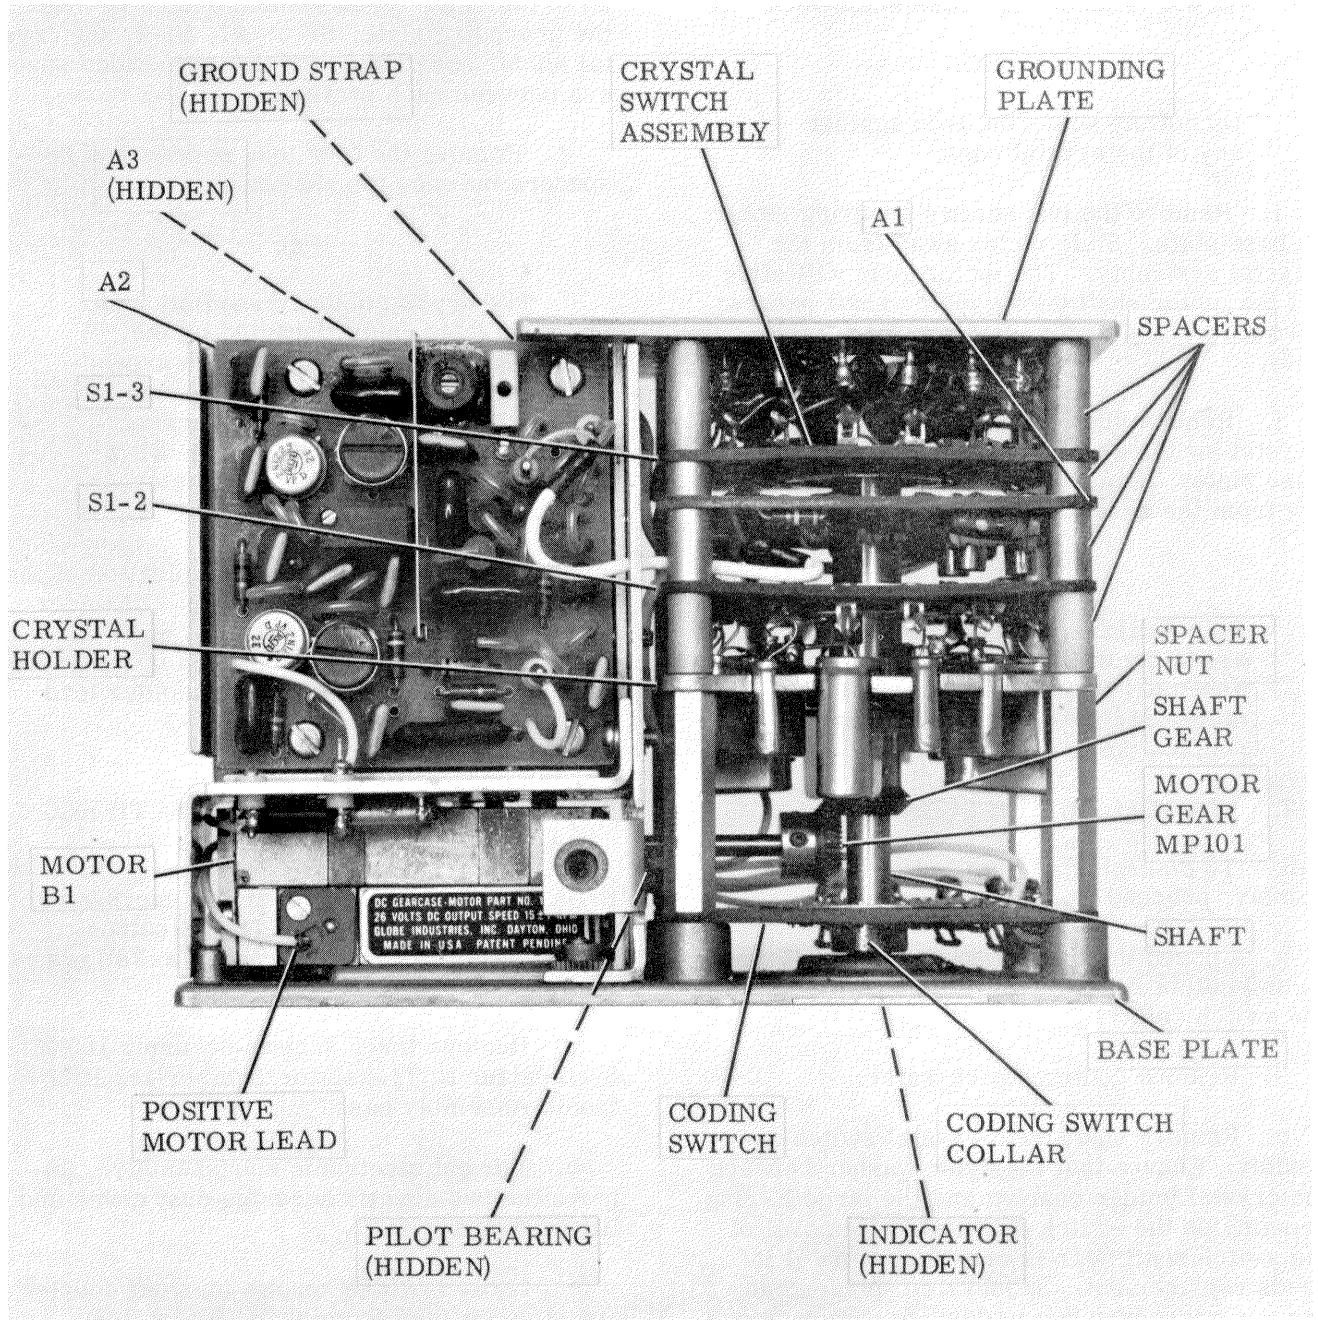

Figure 3-2. 1 MC Synthesizer Electronic Subassembly, Component Location
(1) Unsolder all wires (mark all wires) attached to the coding switch (figure 3-2).
(2) Unsolder coax cable at A1 (figure 3-2) terminals 1 and 2 (mark the two leads).
(3) Disconnect P1 (at end of the coaxial cable) from J1 on A2 (see dust cover). Unsolder coaxial cable shield lead from A2 terminal 2.
(4) Unsolder coaxial cable leads (mark the two leads) from A3 terminals 7 and 9.
(5) Unsolder lead from A1 terminal 5 (mark wire).
d. Remove screw securing ground strap to bracket (figure 3-2).
e. Unsolder motor leads. One lead is soldered to a ground lug located above and to the right of the connector J1 and the other lead is soldered to the positive terminal (figure 3-2).
f. Remove two screws and two nuts securing connector J1 to the base plate (figure 3-2).
g. Remove the two flat head screws securing the bracket assembly to the base plate. The bracket assembly contains A2, A3, and the motor relay. Slide the bracket assembly away from the crystal switch assembly (figure 3-2), until the two locating pins on the base plate are cleared. Carefully remove the bracket. The connector J1 will come off with bracket assembly.
h. Loosen the two setscrews securing the motor gear (MP101 figure 3-2) to the motor shaft. Since these setscrews have been lock-tited, the application of heat from a soldering iron will aid in loosening these setscrews.
i. Remove the two screws securing motor to base plate. Slide motor away from the crystal assembly. The motor gear will slide off the motor shaft as the motor shaft passes through and out of the pilot bearings (figure 3-2).
j. Remove the four screws securing the crystal switch assembly (figure 3-2) to the base plate. Remove the crystal switch assembly from the base plate.
3-8. To disassemble the crystal switch assembly, proceed as follows (figure 3-2):
a. Loosen the two setscrews securing the switch collar (figure 3-2) to the shaft. Remove the switch collar.
h. Series a multimeter AN/PSM-4 (to indicate current) in the positive lead of a 28 VDC power source and connect the positive lead to the positive terminal (figure 3-2) of the motor. Connect the negative lead of the power source to the negative terminal of the motor.